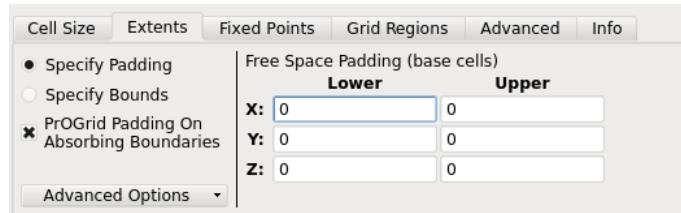

Figure 5.12: Defining the grid extents on the Grid Editor
- Navigate to the EXTENTS tab. We will remove free space padding from all sides of the simulation space, so that the PEC boundary conditions are applied exactly on the outer boundaries of the geometry. Set all six FREE SPACE PADDING (BASE CELLS) values to “0” as shown in Figure 5.12.